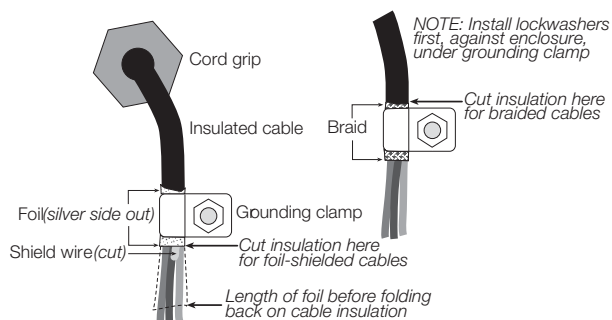

Figure 2-9. Grounding Clamp Attachment for Foil-Shielded and Braided Cabling
- For cables with foil shielding, strip insulation and foil from the cable half an inch (15 mm) past the grounding clamp (see Figure 2-9). Fold the foil shield back on the cable where the cable passes through the clamp. Ensure silver (conductive) side of foil is turned outward for contact with the grounding clamp.
- For cables with braided shielding, strip cable insulation and braided shield from a point just past the grounding clamp. Strip another half inch (15 mm) of insulation *only* to expose the braid where the cable passes through the clamp (see Figure 2-9).